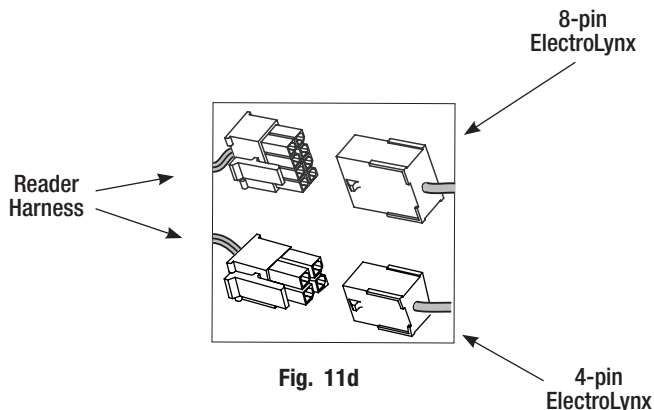

Fig. 11d
- d. Connect ElectroLynx 4- and 8-pin connectors from the door harness to (black) 4- and 8-pin connectors of the SE LP10 harness (Fig. 11d).